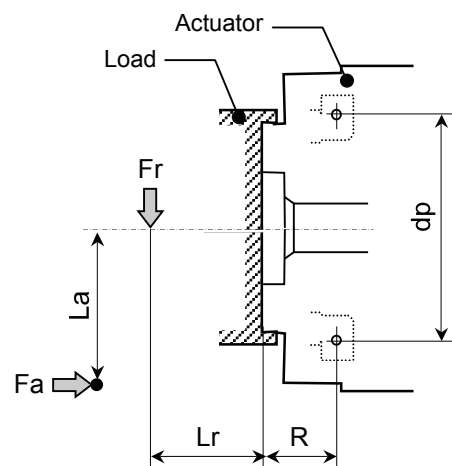

Fig.1 Loads
$F_{rmax}$ : Maximum radial load in N(kgf); See Fig.1.
$F_{amax}$ : Maximum axial load in N(kgf); See Fig.1.
$L_r$ ,  $L_a$ : Loading point in mm; See Fig.1.
$R$ : Offset: See Fig.1 and Table 1.
- $M_{max}$ : Maximum torsional moment in N•m(kgf•m); obtained by the formula (1).
- $F_{rmax}$ : Maximum radial load in N(kgf); See Fig.1.
- $F_{amax}$ : Maximum axial load in N(kgf); See Fig.1.
- $Lr, La$ : Loading point in mm; See Fig.1.
- $R$ : Offset; See Fig.1 and Table 1.
- $dp$ : Circular pitch of roller: See Fig.1 and Table 1.
- Frav: Average radial load in N(kgf); obtained by formula (2).
- Faav: Average axial load in N(kgf); obtained by formula (3).
- dp: Circular pitch of roller: See Fig.1 and Table 1.
- X: Radial load factor; obtained by formula (5)
- Lr, La: Loading point in mm; See Fig.1.
- R: Offset; See Fig.1 and Table 1.
- Mmax: Maximum torsional moment in N•m(kgf•m); obtained by the formula (1)
- Frmax: Maximum radial load in N(kgf); See Fig.1.
- Famax: Maximum axial load in N(kgf); See Fig.1.